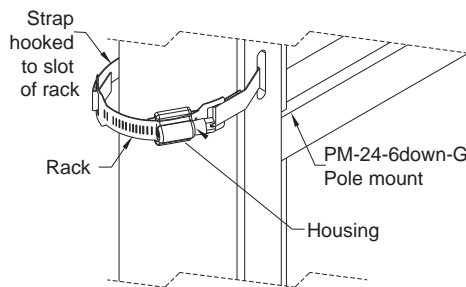

Figure 4
Step 4: Measure, mark and cut the band at least one inch beyond the first serration of the rack, then bend at least a one inch hook toward underside of band (Figure 4 & 5).
Step 5: Insert the hook into the rectangular slot of the rack, if necessary loosen the rack from the housing. Flatten band with thumb to form a clamp (Figure 4).